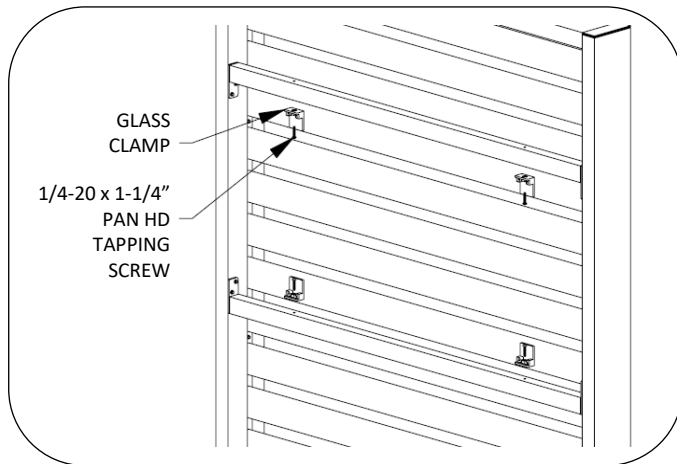

Fig. 3 – ATTACH GLASS CLAMPS
2. Attach larger half of glass clamp to braces, ensuring all clamps face to the same side and are parallel to the brace, see Fig. 3.